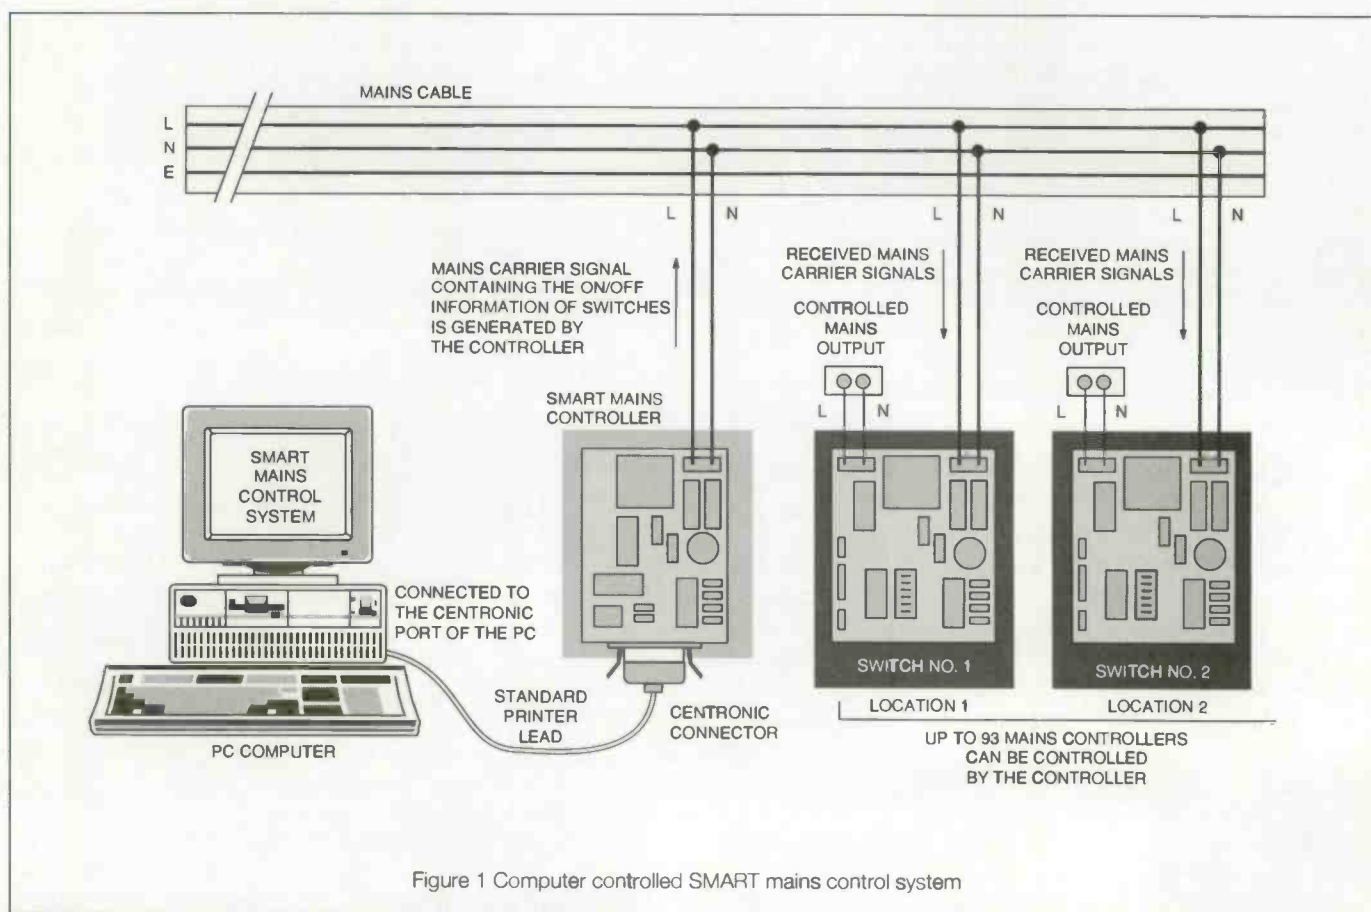

Figure 1 Computer controlled SMART mains control system
**T**his mains controller is a system which allows up to 93 individual mains switches to be controlled by a personal computer. This system is 'smart' because the switches are not controlled by any control wires connecting the switches to the computer. The control commands to tell the switches to turn on or off are generated by a computer-based controller and transmitted through the existing mains lines in a building. The switches detect the message and carry out corresponding actions. The schematic of the system is shown in Figure 1.
The smart mains control system consists of a master controller (transmitter) controlled by a PC and up to 93 switches (receivers) as shown in Figure 1. The controller sends ON/OFF commands to the switches through the mains and the switches receive the signal, analyse the commands and carry out actions.